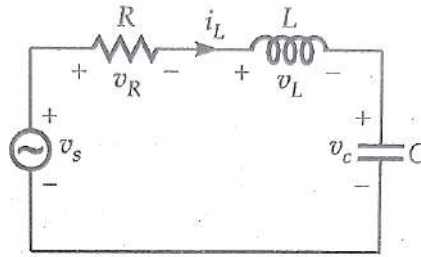

Figure 5
- (b) Derive the state model for the RLC circuit shown in Figure 5. Select  $i_L$  and  $v_c$  as state variables. 04